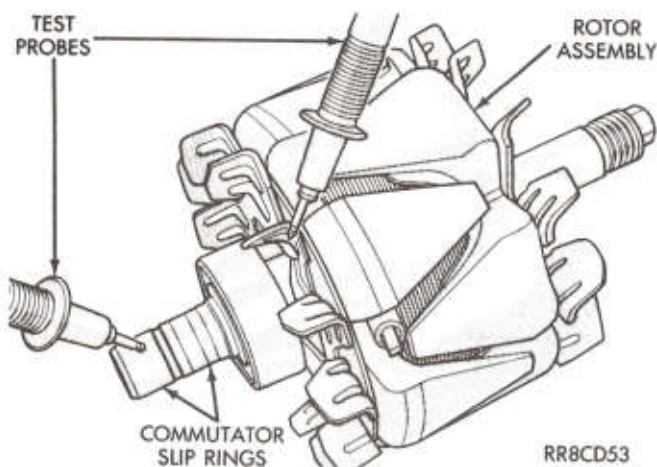

Fig. 12—Test Rotor Field Circuit for Ground
(3) Test for continuity from both of field coil slip rings to the rotor shaft or core, it should test open (Fig. 12).